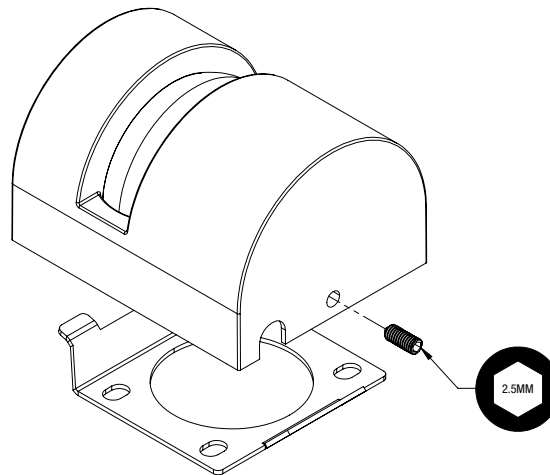

FIG 1
1. To remove the mounting plate, use a 2.5mm hex tool to unscrew the set screw located on the side of the luminaire. **FIG 1.**